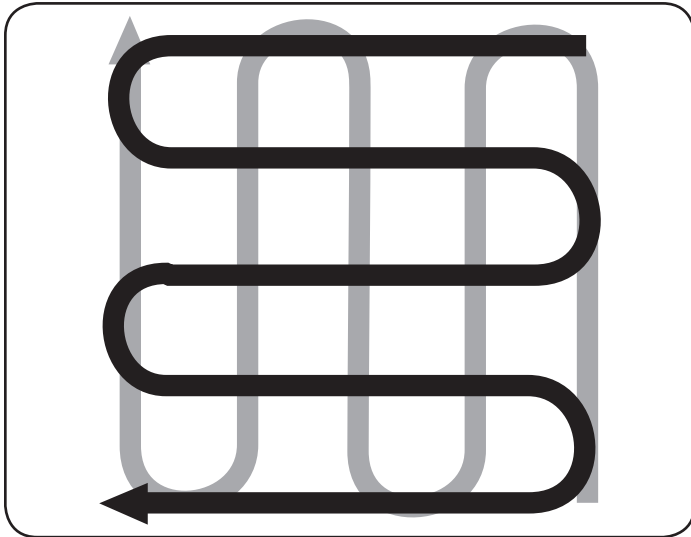

Figure 18
- When finished in one direction, make a second pass at a right angle, See Figure 18. Overlap each pass for the best results (in very hard ground, it may take three or four passes to thoroughly pulverize the soil.)